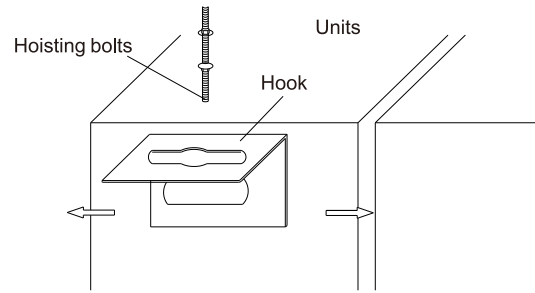

Figure 8.2
b. Install the hook onto the indoor unit, shown in Figure 8.2.